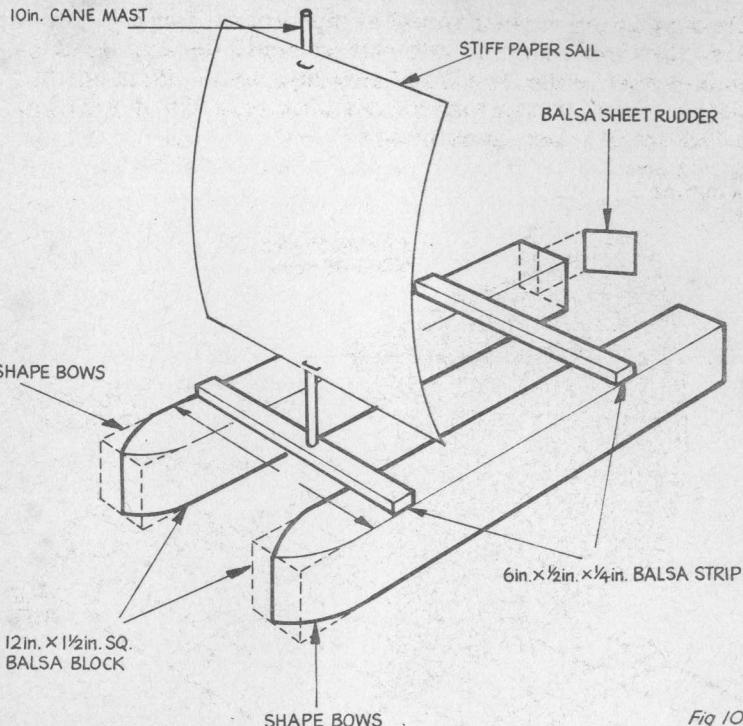

Fig 10
*Fig. 10* shows how to make a simple model catamaran, shaping the two hulls from  $1\frac{1}{2}$  in. square balsa. Fit the same size mast and sail as the Kon Tiki raft. It will be faster and sail more broadside to the wind, if the sail is fastened at an angle. If the weather is breezy you will also discover that although the